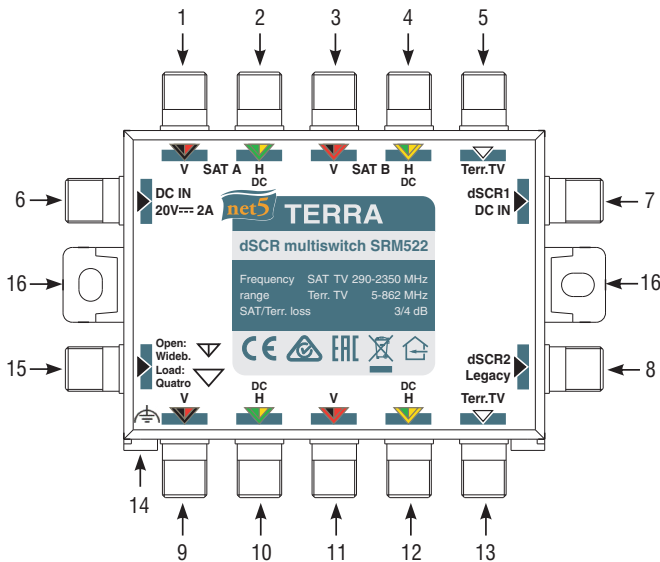

Figure 1. External view of the multiswitch
<p>1. Multiswitch is powered from local PSU (20 V) via DC input (see Figure 1, pos. 6) and pass DC to H trunk lines. (Recommended for use is PS202F 20V PSU).</p>	<p>Recommended as first choice. WARNING: Don't overload PSU via H trunk lines – check total system power consumption of multiswitch and from H trunk lines (including all other equipment connected). Check all other system equipment connected to H lines if it can accept 20V. SERIOUS DAMAGE OF IT CAN OCCUR! Note: All trunk lines have DC bypassing.</p>
<p>3. Multiswitch is powered from dSCR1/DC IN or dSCR2/Legacy outputs (subscriber) (see Figure 1, pos. 7, 8). Multiswitch and equipment connected to H trunk lines powered directly from STB's.</p>	<p>WARNING: MULTISWITCH WILL DRAW CURRENT AND POWER FROM OUTPUT WITH HIGHEST VOLTAGE! STB's connected to tap outputs must ensure supply sufficient power for multiswitch and all equipment connected to H trunk lines. If not see below.</p>
<p>4. Multiswitch is powered from dSCR1/DC IN output via dSCR power inserter (see Figure 1, pos. 7). (Recommended for use is PI012).</p>	<p>This mode is similar to 1 mode. Multiswitch and equipment connected to H trunk lines powered via dSCR power inserter with 22 kHz bypass connected to any dSCR output. Use dSCR1 output if Legacy STB is connected to dSCR2/ Legacy output. WARNING: Don't exceed the current capability of power inserter and dSCR outputs (800 mA max.). SERIOUS DAMAGE CAN OCCUR IF OVERLOADED!</p>